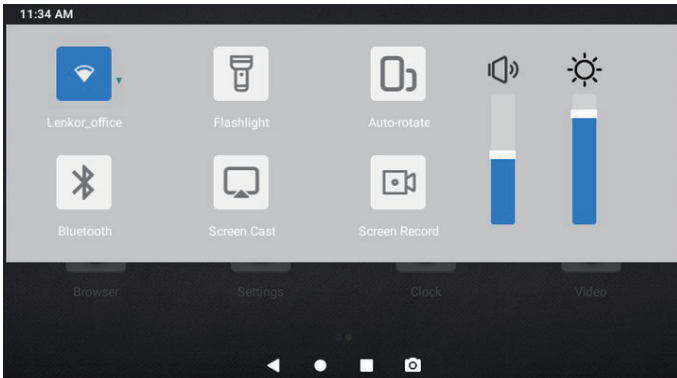

Figure 1.2.2
**Swipe-Down Menu:** Swipe down from the top of the screen to display the Swipe-Down Menu. This gives you instant access to Wi-Fi, Bluetooth, a flashlight, volume, screen brightness, screen projection, and screen recording (see Figure 1.2.2).